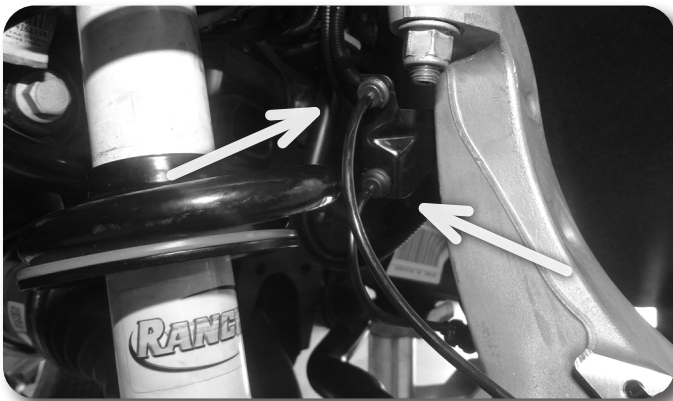

Figure 4
7. Unclip the ABS wire from the knuckle for additional slack. **Figure 4**